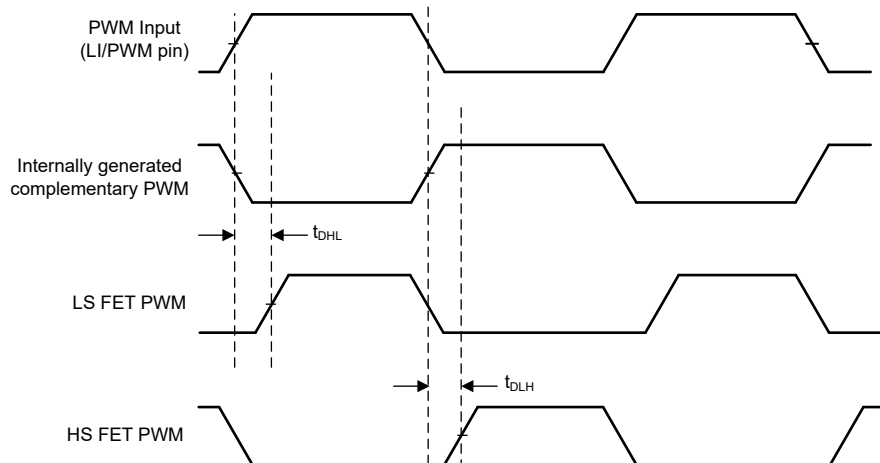

Figure 8-5. PWM Mode Operation
DRV7167A supports single PWM mode for IO limited controllers. Float the RDLF pin to enable the single PWM mode. Keep the ENIN/HI pin high to enable the driver. Resistors (0Ω to $100k\Omega$) on DHL and DLH set the dead time for high to low transition and low to high transition at switch node as per Equation 4 and Equation 5. Figure 8-5 explains how the PWM inputs from the high side (HS) and low side (LS) GaN FET derive from the single PWM input. DRV7167A generates a complimentary PWM, which is 180° phase shifted signal of the PWM input. The device generates the LS FET PWM input by delaying the rising edge of PWM input by t_{DHL} time to provide dead time and HS FET PWM input by delaying the rising edge of complimentary PWM input by t_{DLH} time to